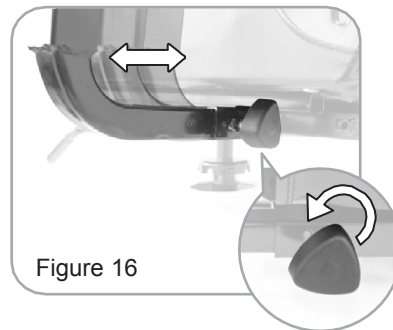

Figure 16
- **Width** : Loosen the thumbscrews as picture to adjust the width, tighten again to lock at a desired position. (Figure 16)